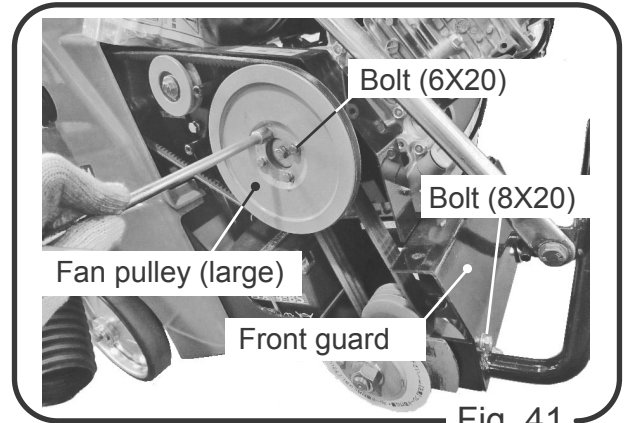

Fig. 41
2. Remove four bolts (6X20), and remove the fan pulley (large). Remove four bolts (8X20) and remove the front guard. (Fig. 41)